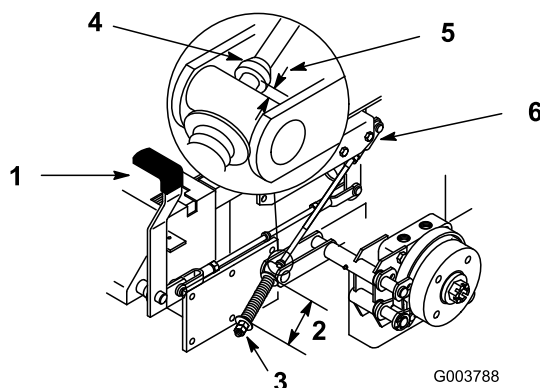

Figure 48
The measurement should be 2-3/4 inch (70 mm) between washers (Figure 48).
3. If adjustment is necessary, loosen the jam nut below the spring and tighten the nut directly below the yoke (Figure 48). Turn the nut until the correct measurement is obtained. Tighten the two nuts together and repeat on opposite side of unit.
The measurement should be 3/16-1/4 inch (5-7 mm) (Figure 48).
7. If adjustment is necessary, loosen the jam nut directly below the yoke. Turn the bottom rod until the correct measurement is obtained (Figure 48). Tighten jam nut at yoke